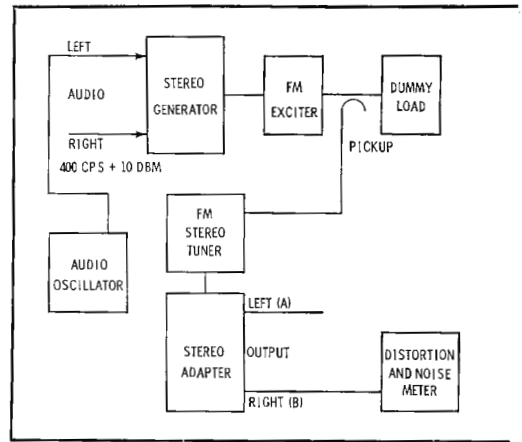

Fig. 9. Setup used to make test step 3e.
- (e) Reconnect the stereo generator output to the input of the FM exciter. Connect the stereo adapter to an FM stereo tuner for monitoring purposes. Without changing the balance control setting, slightly advance the L - R (DSB) gain or amplitude control for a minimum reading from the adapter right channel output. See Fig. 9 for test setup.